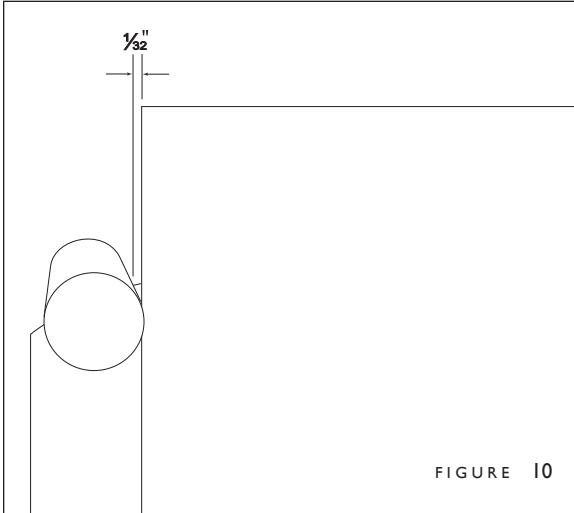

FIGURE 10
2. Move the paper stop so that it is approximately $1/32"$ (or 1 mm) from the left edge of the paper (Fig. 10).